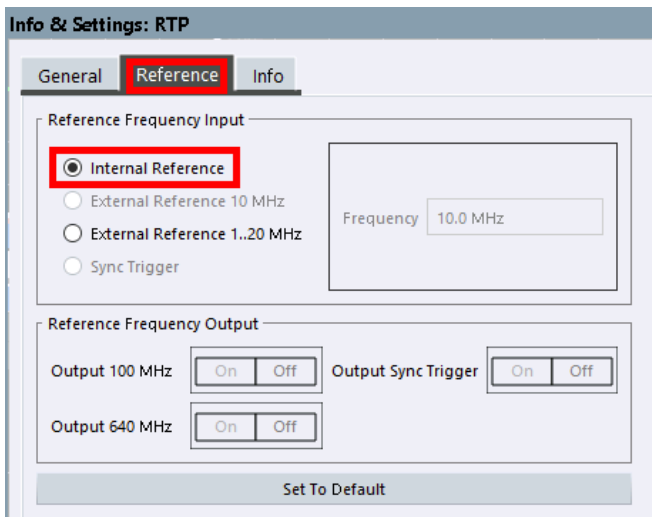

Fig. 3-10: Reference setting of RTP/RTO
2. Goto "Reference" tab, ensure the "Internal Reference" is selected. See Fig. 3-10,